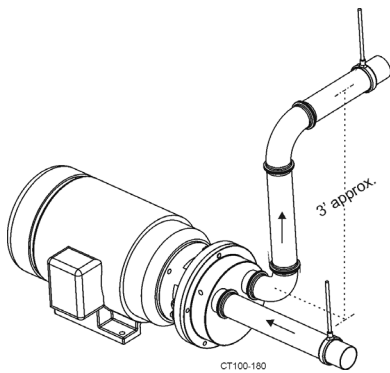

Figure 4 - Vertical Discharge
**Vertical Discharge Piping:** Ensures backflow into casing for CIP return or similar applications. Install vertical section of pipe no less than 3 feet (1 meter) long in discharge piping (Figure 4).